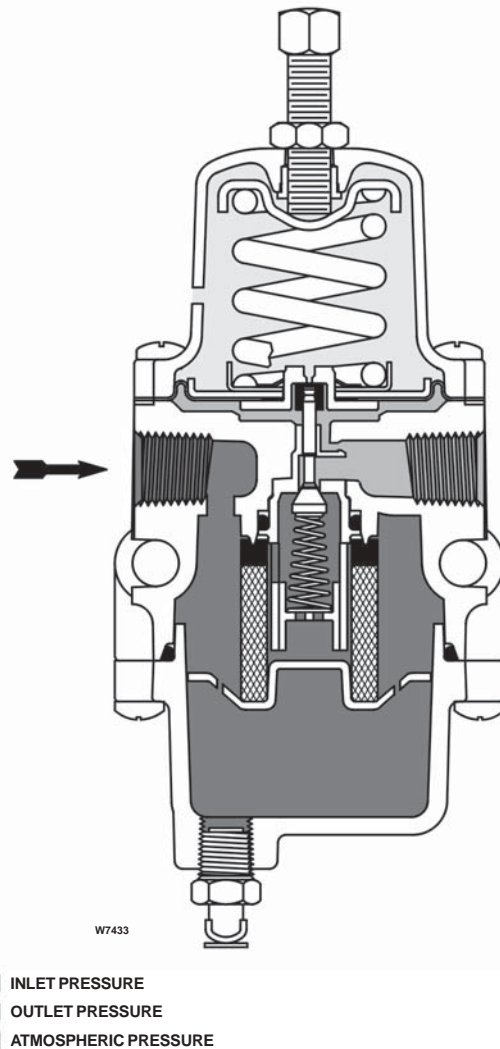

Figure 2. 67CF Series Regulator Operational Schematic
- **Pressure Loading Regulator**—Provides high accuracy and improved performance in dirty steam service by eliminating the need for a pilot regulator (see figure 2).